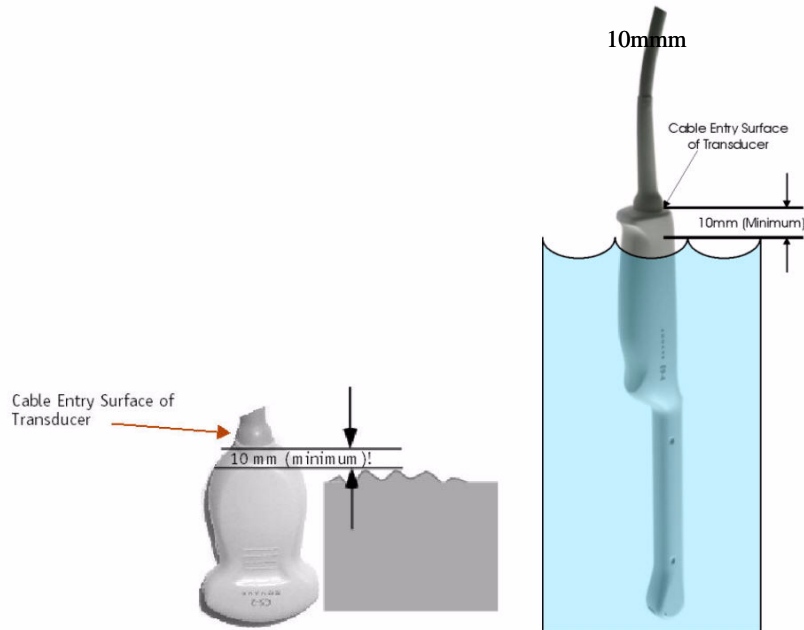

Figure 46: Transducer immersion limits
6. Immerse the transducer into the disinfecting solution, ensuring it is not immersed below the depth indicated in the figure (Refer to **Figure 46: Transducer immersion limits**)